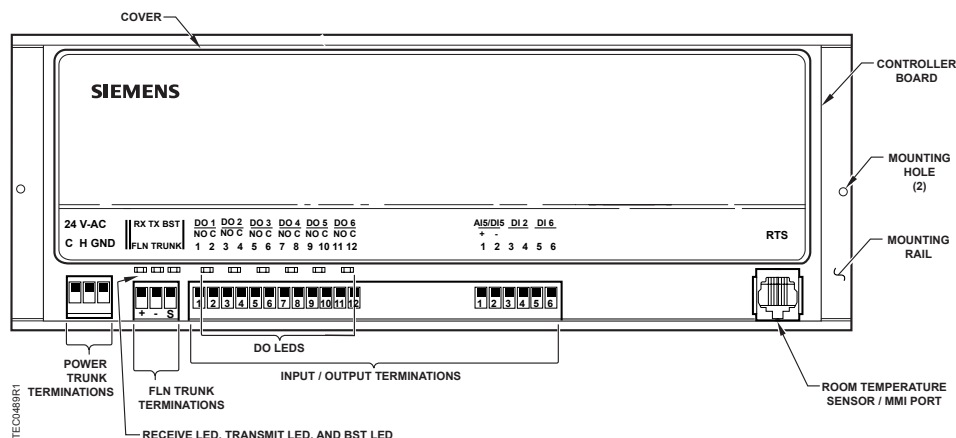

Figure 1. BACnet MS/TP Unit Conditioner.
1. Secure the mounting rail (Figure 1) in the controller's desired location.
6. Plug the room temperature sensor cable into the RTS port (Figure 1).